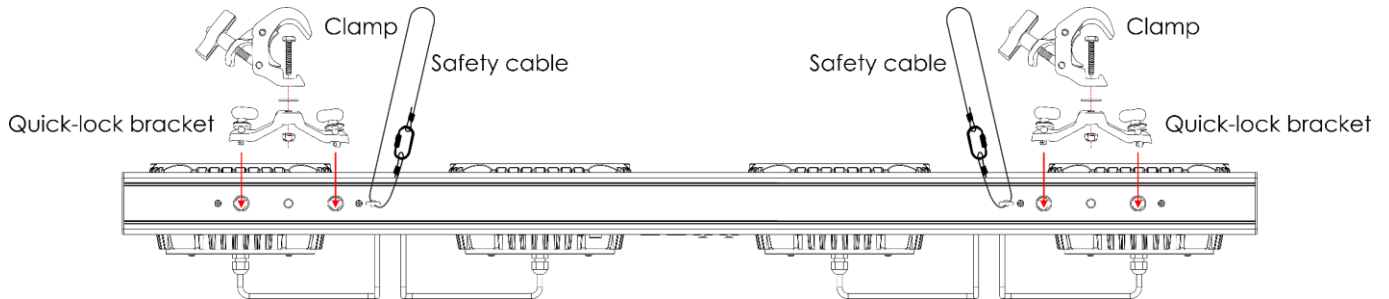
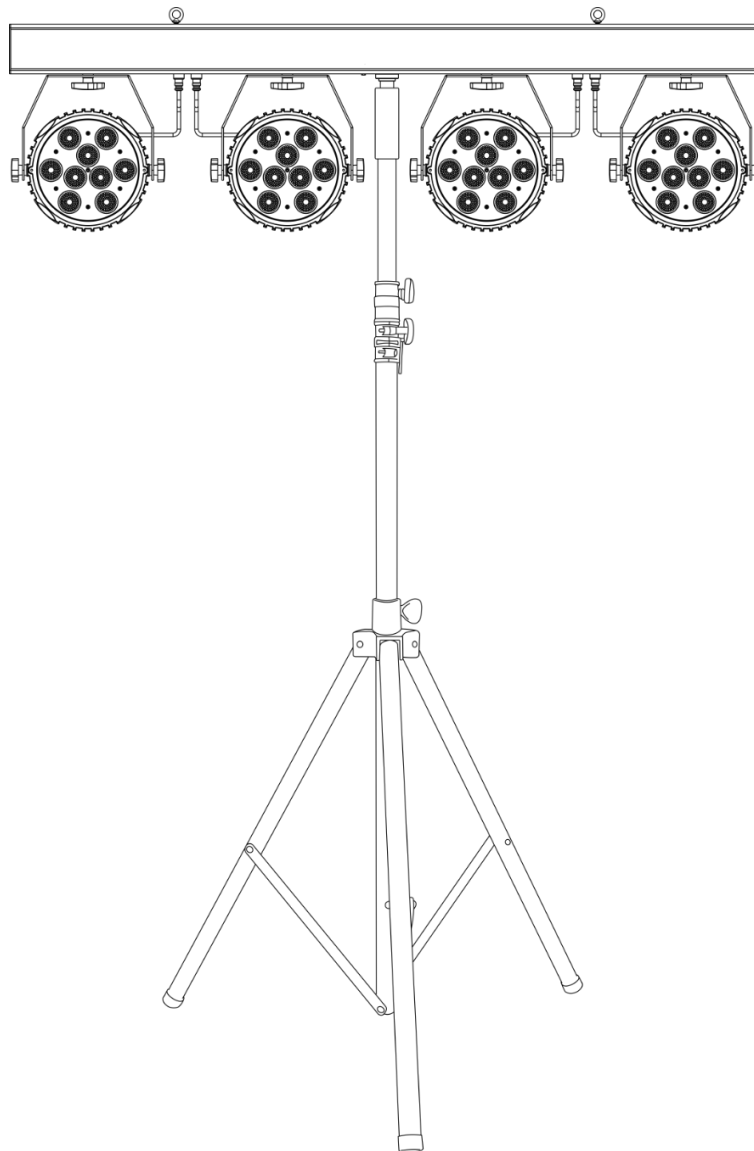

Fig. 06
Fig. 07
- 01) Use the included quick-lock brackets to attach the device to the supporting structure, as shown in Fig. 06. Make sure that the device cannot move freely. Optionally, you can install the device on a lighting stand, as shown in Fig. 07. The lighting stand can be purchased separately.
- 02) Secure the device with a secondary suspension, for example a safety cable. Make sure that the secondary suspension can hold 10 times the weight of the device. If possible, the secondary suspension should be attached to a supporting structure independent of the primary suspension. Put the safety cable through both **safety eyes (01)**, as shown in Fig. 06.